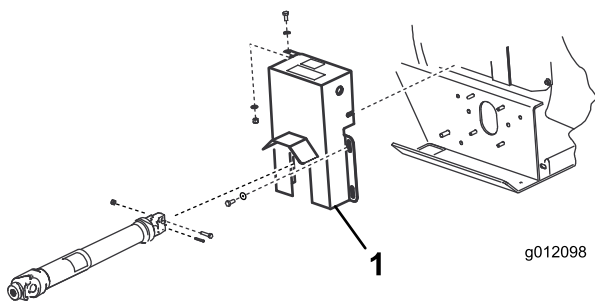

Figure 12
1. Loosen the fasteners securing the belt guard to the blower housing (Figure 12). Remove the guard.